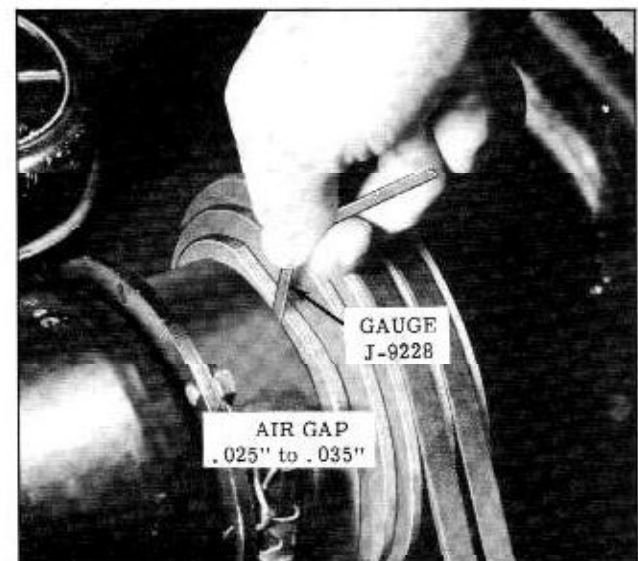

Fig. 14-20 Checking Rotor Plate Air Gap
Clutch Adjustment (Fig. 14-20)
4. Check rotor plate air gap. The air gap must be .025" to .035". (Fig. 14-20)